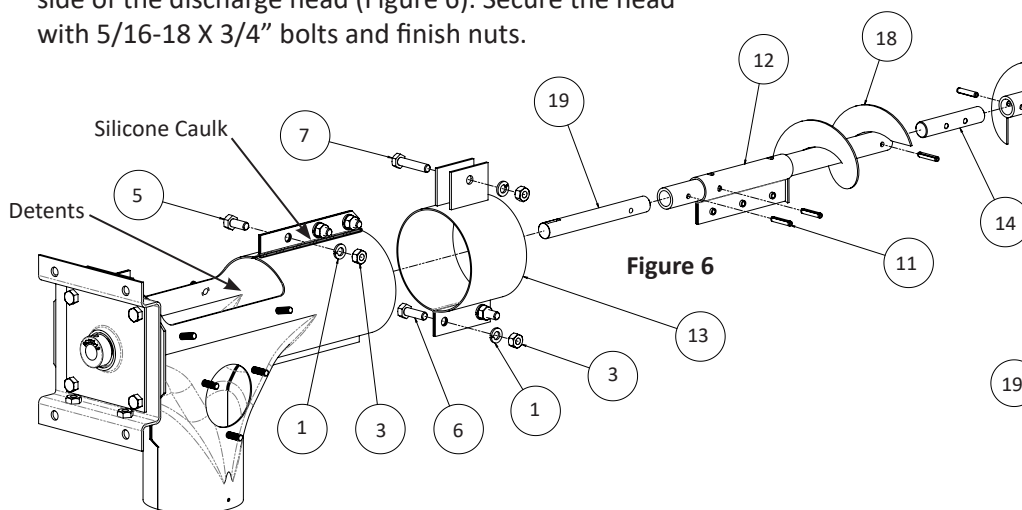

Figure 6
- Assemble the 5/16-18 X 1" and 5/16-18 X 1-1/2" bolts to the auger brace (Figure 6). Slide the assembly onto the discharge end of the auger tube and secure. Position the discharge head assembly on the discharge end of the auger tube so that the tube stops at the detents in the side of the discharge head (Figure 6). Secure the head with 5/16-18 X 3/4" bolts and finish nuts.